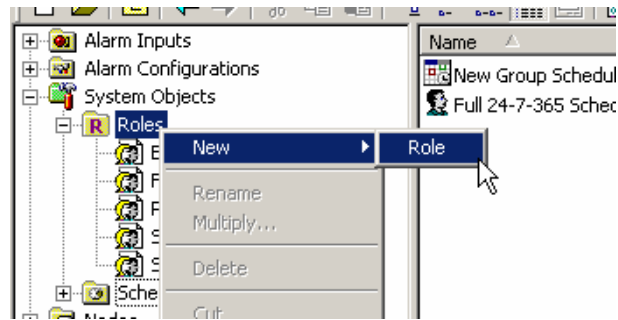

Figure 6.12. Creating a New Role
1. Right-click on the **Roles** folder in the tree control of the Multimedia Configurator screen, and select **New > Role** from the pop-up menu, as shown in Figure 6.12. The **Roles** folder is located under the **System Objects** folder on the tree control.